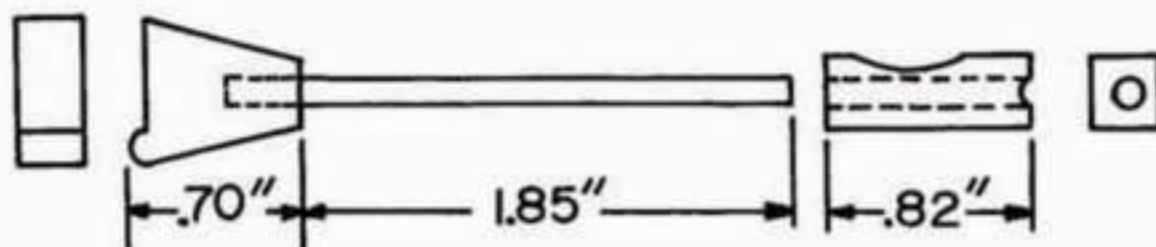

Fig. 4-11 MAINSPRING
The next step is to make and fit the mainspring parts. Make the head of the strut from mild steel about as shown in Fig. 4-11 and drill it undersized for the strut rod. The best material for this rod is the largest size spring wire in the Brownell spring wire kit, namely wire size .120". Make the strut sleeve and drill the holes for the strut pin (27). A 1/16" pin is adequate. Notch the hammer for the strut. For initial testing of the hammer action you can use a piece of medium tension coil spring for the mainspring, but for the final spring use a heavy